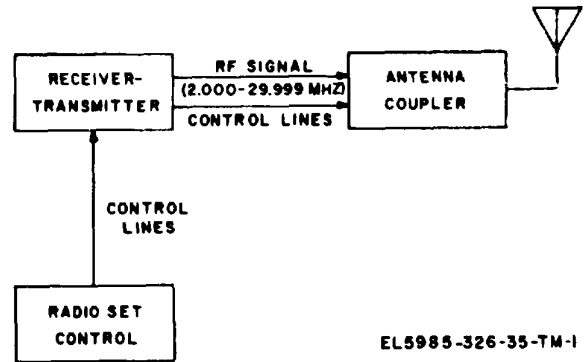

Figure 2-1. Basic Hf Communications Systems, Block Diagram
(fig 2-1)
a. A high frequency (hf) communication system consists of a receiver-transmitter, a radio set control, an antenna, and an antenna coupler (fig. 2-1). The system provides voice communications between aircraft and ground communication stations.
d. The antenna coupler derives band information from the transmitted radio frequency (RF) signal. This band information is used to automatically tune the antenna coupler and match the antenna impedance with the receiver-transmitter impedance.
(figs. 2-1 and 2-2)
c. The tuning sequence is started by selecting a new frequency on the radio set control (fig. 2-1). At this time, the tuning elements move to their *home* positions (table 2-1) and remain there until the transmitter is keyed. In the CU-1669/GRC, transmit-receive relay A1K3 remains restored permitting reception with complete isolation from the coupler when the coupler is in the *home* position. In the operate position and keyed, receive ground relay A1K4 grounds the receiver input. Coupler, Antenna CU-1658/A has no provisions for signal reception.